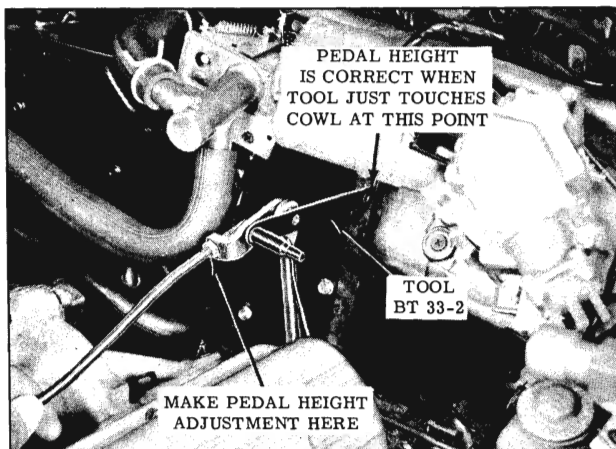

Fig. 3-328 Checking Pedal Height
15. With the engine off, check and adjust the pedal height with Tool BT-33-2. (Fig. 3-328)
18. With engine off, check and adjust pedal height with Tool BT-33-2 (Fig. 3-328).
14. With engine off, choke fully off and fast idle screw not touching the fast idle cam, adjust the pedal height, if necessary, with Tool BT-33-2 as shown in Fig. 3-328.
The pedal height is adjusted by using Tool BT-33-2. Place the tool in position (with the hole nearest the pin) over the T.V. bellcrank pin. Swing the gauge in an arc and adjust the length of the accelerator lever rod until the end of the gauge just contacts the closest surface of the cowl. (Fig. 3-328)